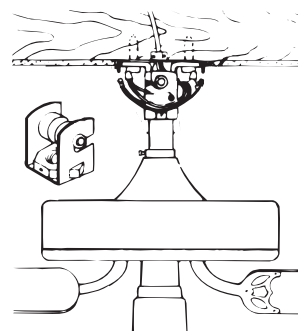

Figure 10
4. Lift the fan by the motor housing and hook the hanger bracket onto the pin in the rubber bushing. Make sure both ends of the pin are outside **the hanger bracket.** See Figure 10.